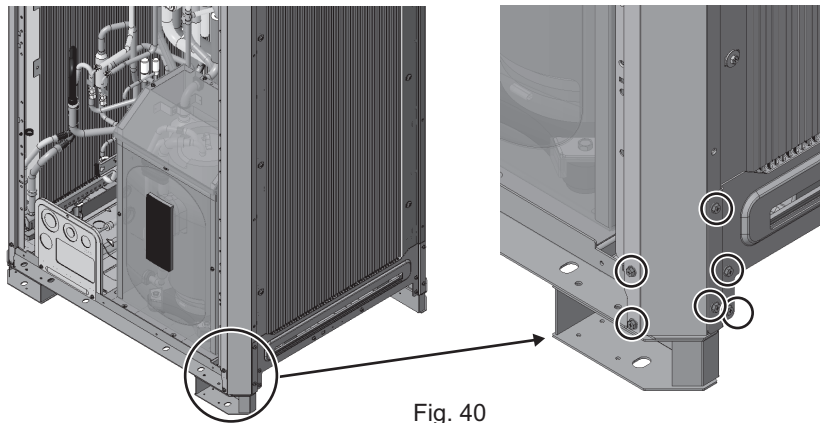

Fig. 40
- (3) Remove the screws that secure the right pillar on the front side and remove the pillar. (Six screws: Fig. 40)